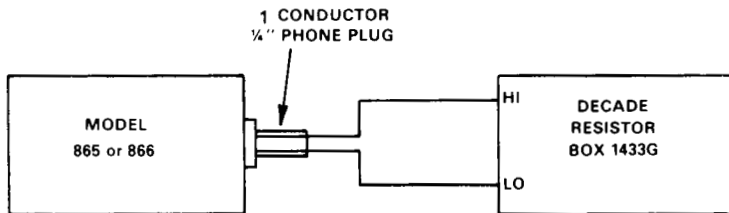

Figure 5-1 Calibration Setup
1. Set up the equipment as shown in Figure 5-1.